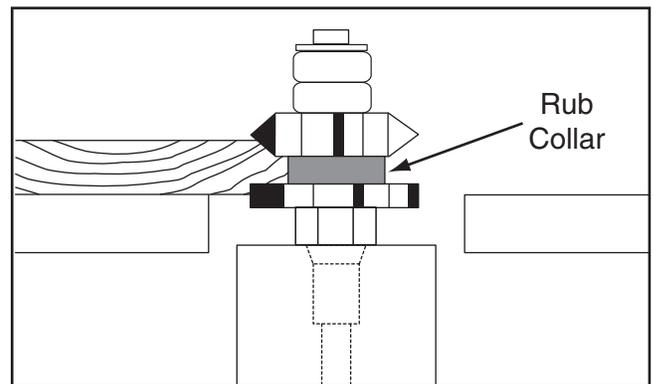

Figure 38. Using rub collar between cutters.
3. **Between two cutters:** Using a rub collar between two cutters has the distinct advantage of performing two cuts at once or eliminating the need to change cutters for two different operations (see **Figure 38**). Notice that part of the edge is left uncut. The uncut portion rides on the rub collar.